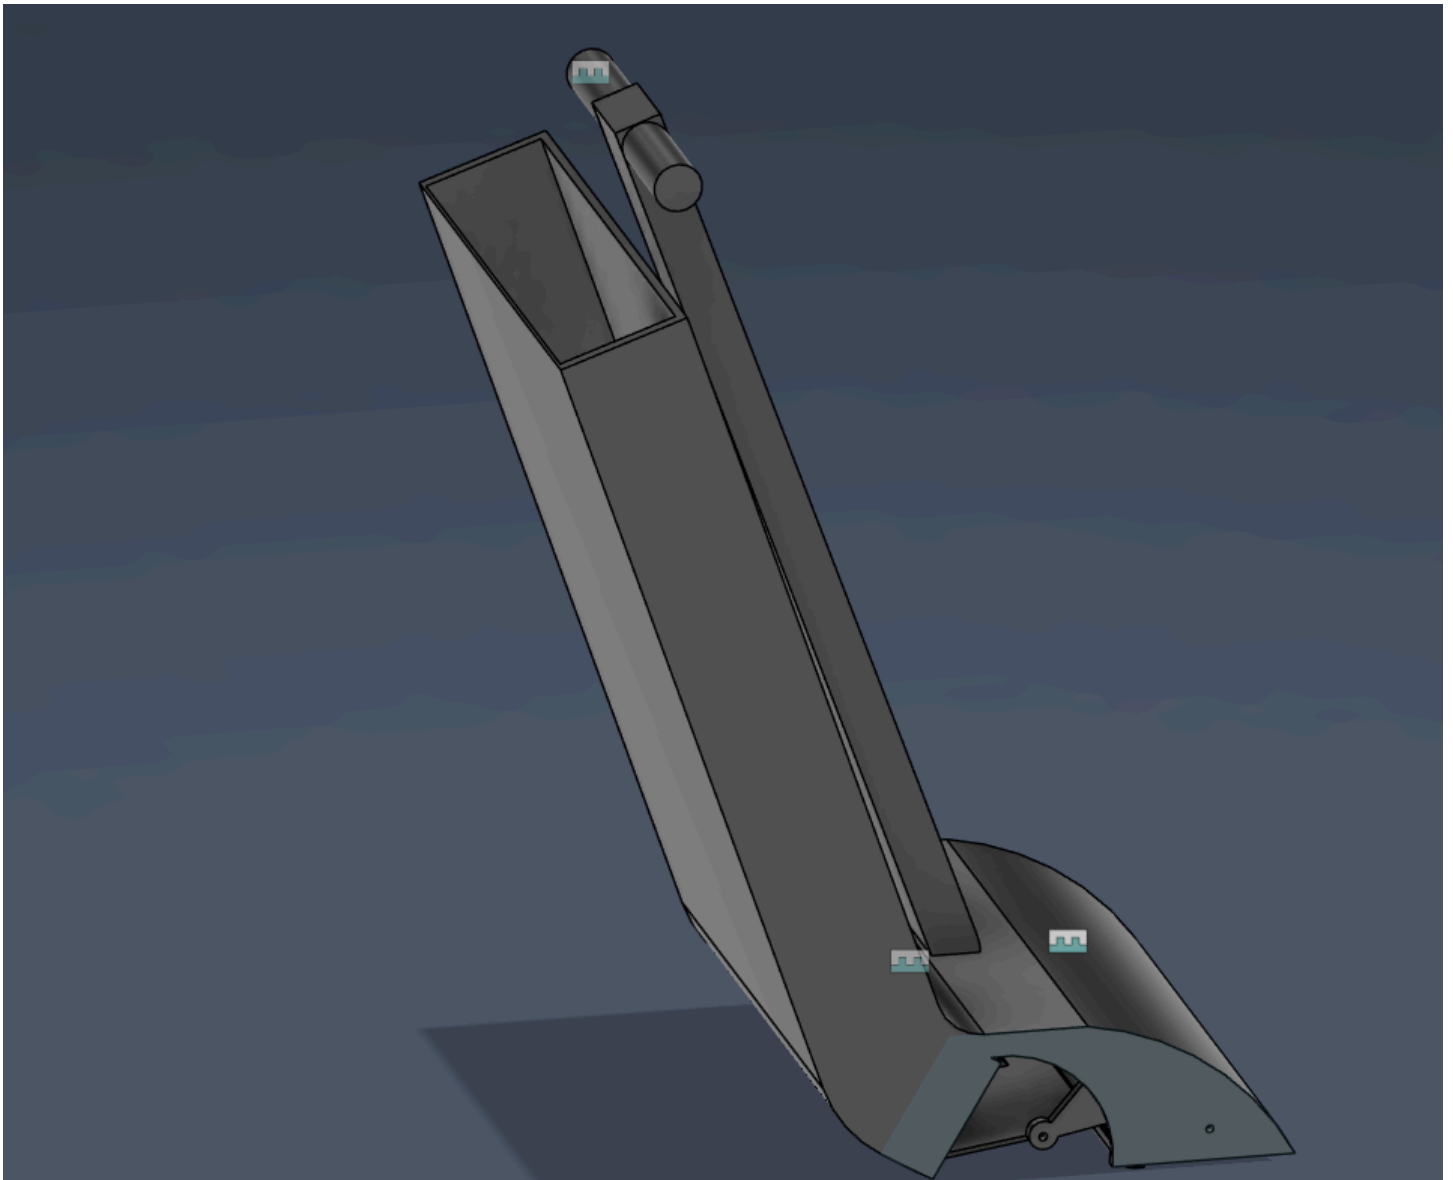

Figure G.11: Final Product
16. Drape the leaf bag over the 3D-printed frame. The final product should now look like Figure G.11.